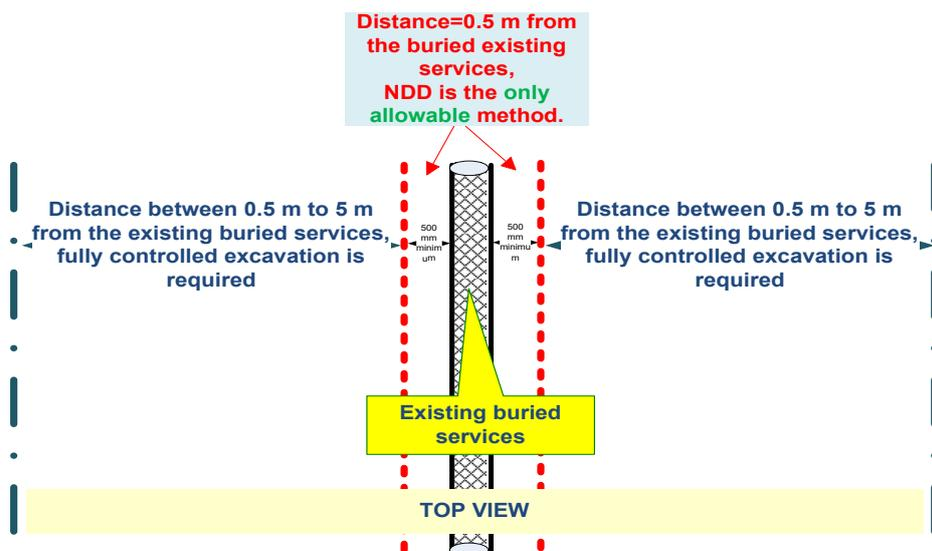

Figure 1. Excavations when crossing VicTrack buried assets
- 7.6.4. In order to minimise risk of damage to existing underground VicTrack External Plant, suitable fully controlled mechanical excavation of the proposed crossing must be used between 5.0 metres and 0.5 metres from the existing (Poached) underground External Plant alignment. This excavation must be fully controlled, including using a spotter and an appropriate Industry Specialist. Under 0.5 metres, NDD must be used. Ripping, ploughing, impacting, or hammering shall not be considered as fully controlled mechanical excavation techniques and may not be used within 5.0 metres of an existing cable except as otherwise agreed upon by NIS well in advance. Excavations involving explosives are not permitted. See Figure 1;